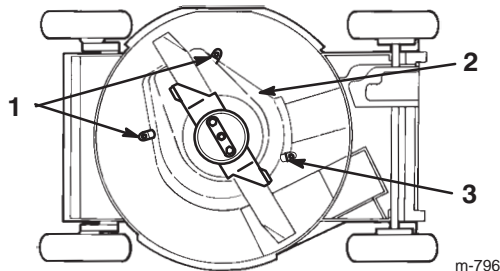

Figure 27
- Remove the two blade nuts, the anti-scalp cup, the accelerator, and the blade (Fig. 27).
- Loosen the tabs that secure the BBC shield to the deck by loosening the nuts or the bolts on the tabs (Fig. 27). Rotate the tabs 180° to move them out of the way.